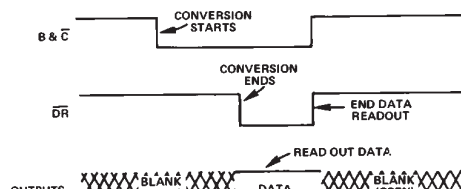

Figure 12. Multiplex Mode
**Multiplex Mode**—In this mode the outputs are blanked except when the device is selected for conversion and readout; this timing is shown in Figure 12. A typical AD571 multiplexing application is shown in Figure 15.